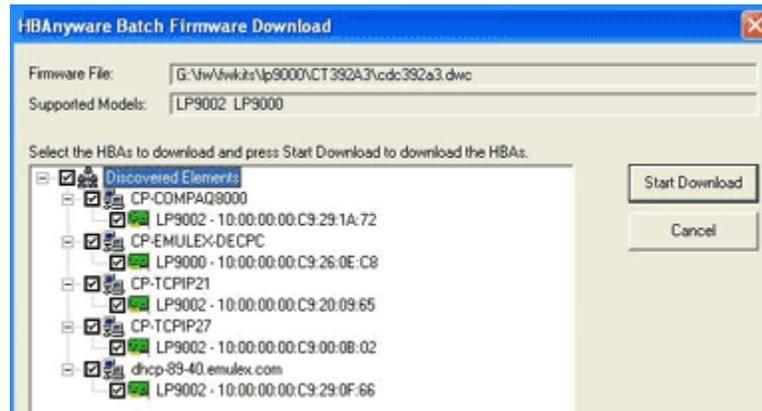

Figure 42: HBAAnyware Batch Firmware Download Window (Partial View), Selecting HBAs to Update
- Click the box next to an HBA to select or remove that HBA from the batch process. Click the box next to a host to select or remove all eligible HBAs for that host from the batch process (Figure 42).